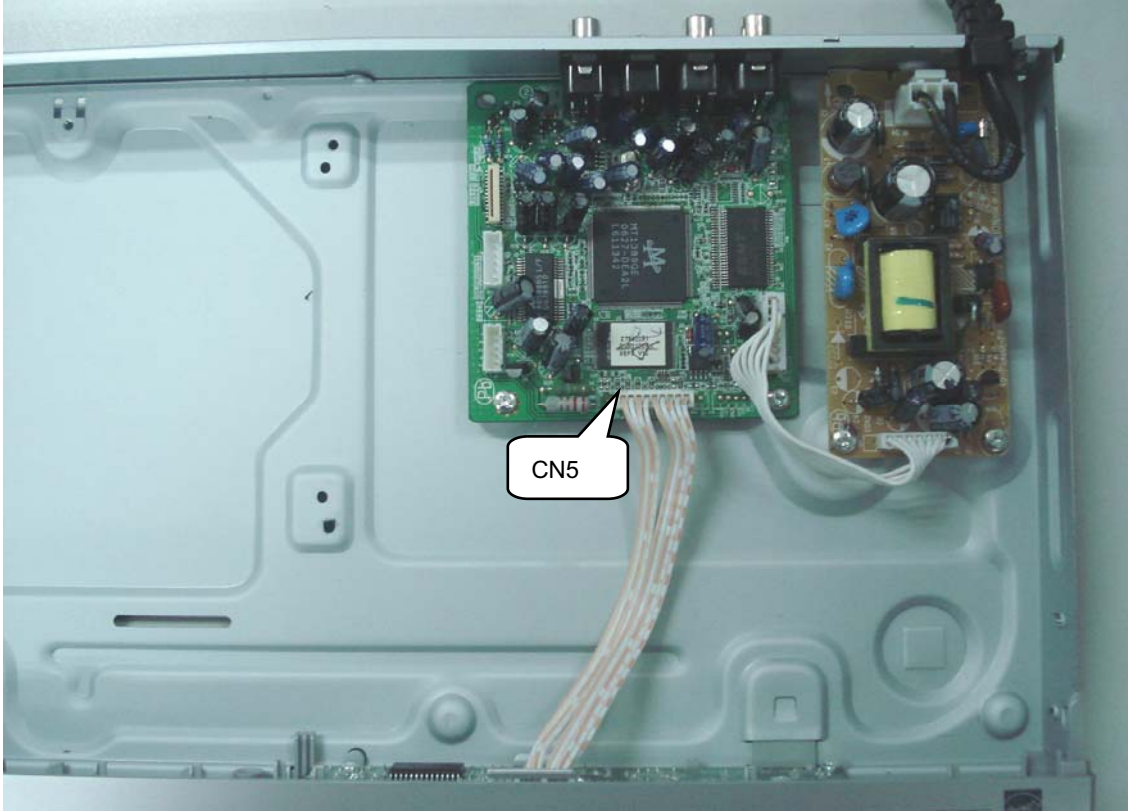

Figure 5
Step5: Dismantling Front Panel, disconnect the 3 connector, then release the snaps on the both sides of Front Panel and bottom cabinet , then gently pull the Panel out from the set. (Figure 5 & 6 & 7)